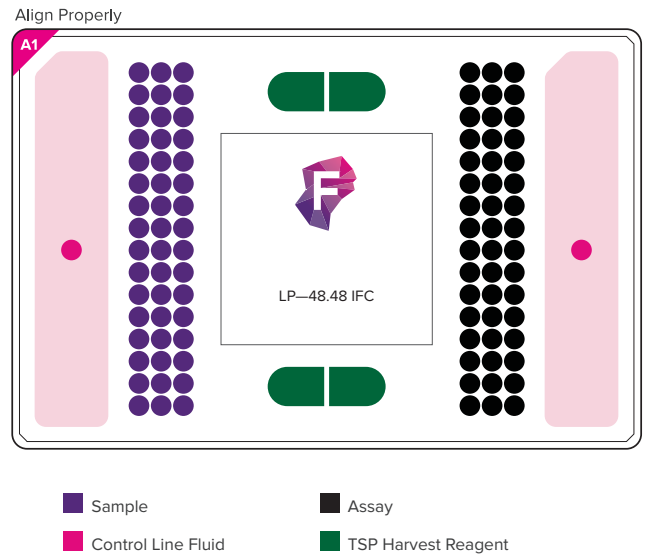

Figure 2. Map of the LP–48.48 IFC
- 5 Load an entire syringe of LP–48.48 Control Line Fluid into one accumulator and a second syringe into the other accumulator (dark pink circles in Figure 2). Use only LP–48.48 Control Line Fluid.
- 6 Pipet 650 µL of TSP Harvest Reagent (PN 101-0743) into each of the H1, H2, H3, and H4 harvest reservoirs (green hemispheres in Figure 2).
- 3 Pipet 4.0 µL of each 20X assay pool into an assay inlet. [See Figure 2 (black circles) and the IFC pipetting scheme in Figure 3.]
- 4 Pipet 4.0 µL of each sample mix into a sample inlet. [See Figure 2 (dark purple circles) and the IFC pipetting scheme in Figure 3.]